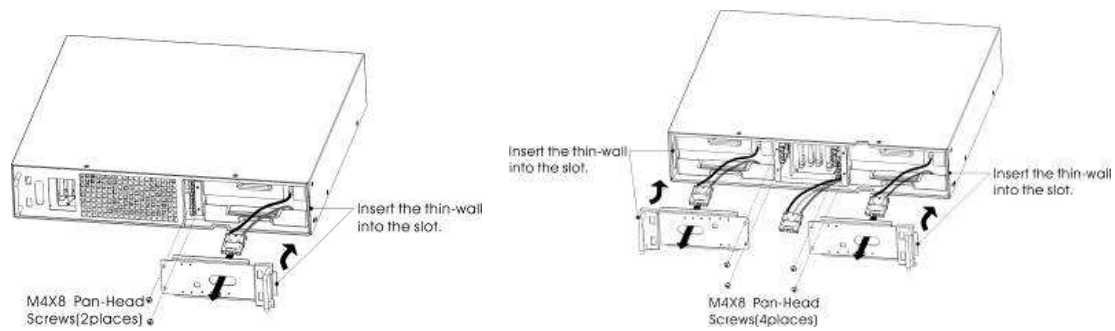

Fig.26 The Installation for baffle of battery pack
3. Remove the connection cables between battery box and UPS. Release the screw of the baffle of the battery pack as the Fig26 shows, then remove the baffle from the left or right.